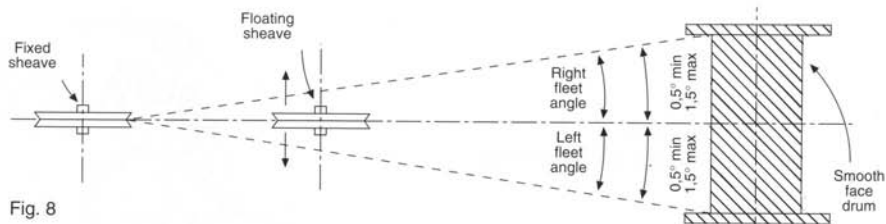

Fig. 8
- Position the reel and stand such that the fleet angle during installation is limited to 1.5 degrees. (See fig. 8.)